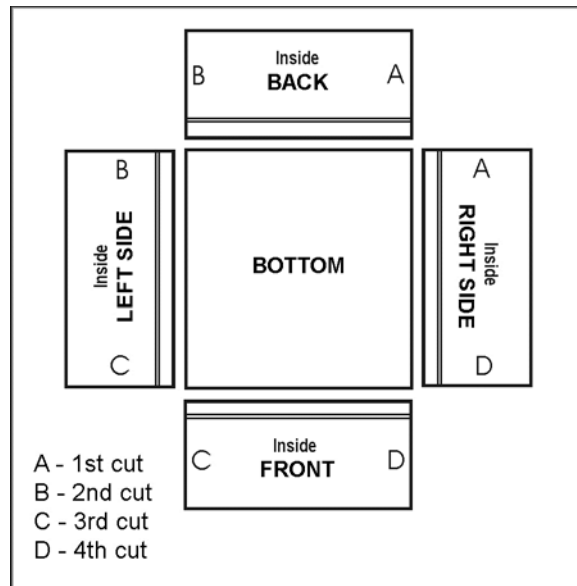

Figure 28
No matter the project, prevent mistakes by laying out the pieces beforehand according to how they will be assembled. Place them with the inside facing up, and label the mating edges, as shown in Figure 28.
14. Make the cut, then continue the dovetailing procedure with the FRONT piece, making cuts "C" and "D" (Figure 28) until all four joints of the drawer have been cut.